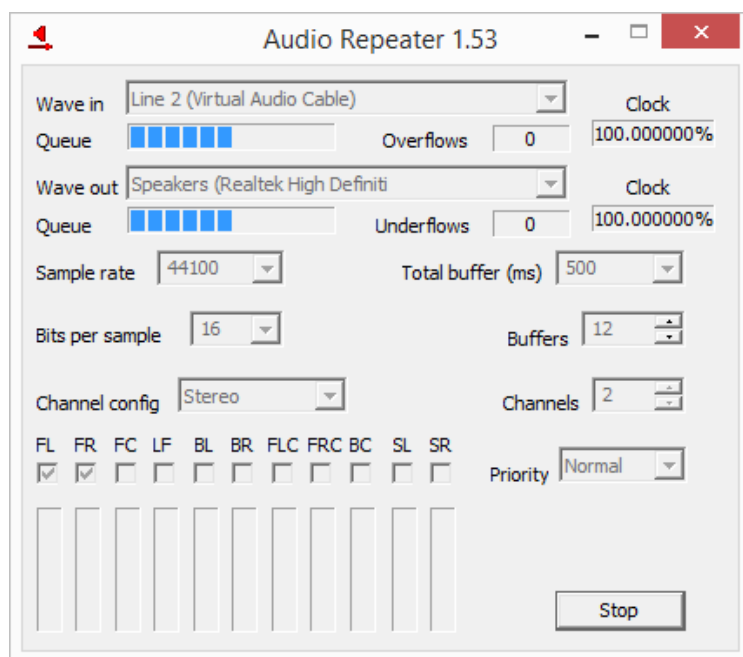

Figure 10: Here the Audio Repeater module of VAC software has been started.
- Click onto “Start” to activate the audiorepeater – see Figure 10, next page.